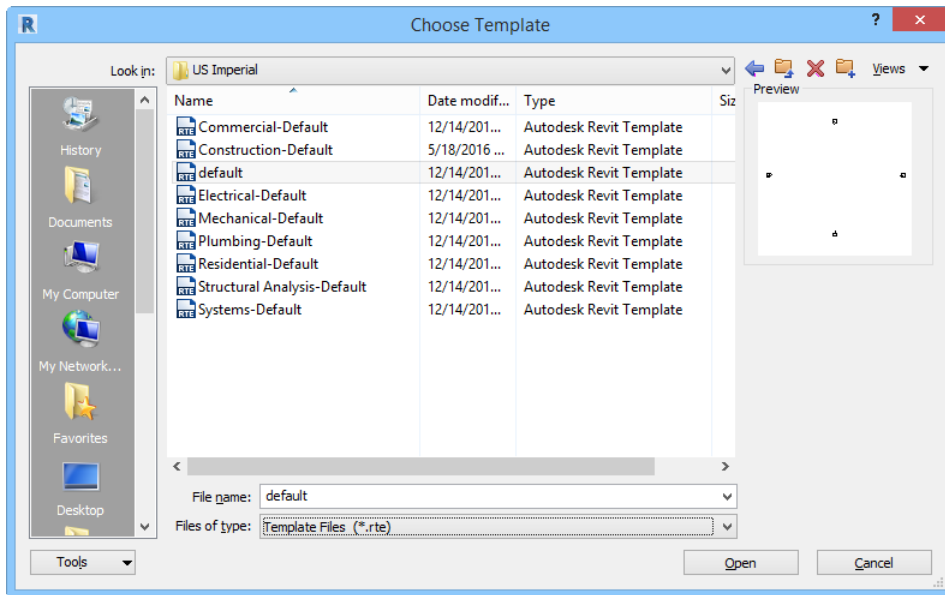

Figure 2-36 The *Choose Template* dialog box with the *default.rte* file selected
2. In the **Choose Template** dialog box, select the **default** template file from the **US Imperial Folder** (**DefaultMetric** template file from the **US Metric** folder), refer to Figure 2-36 and then choose the **Open** button; the **Choose Template** dialog box closes and the selected template file is applied to the new project.